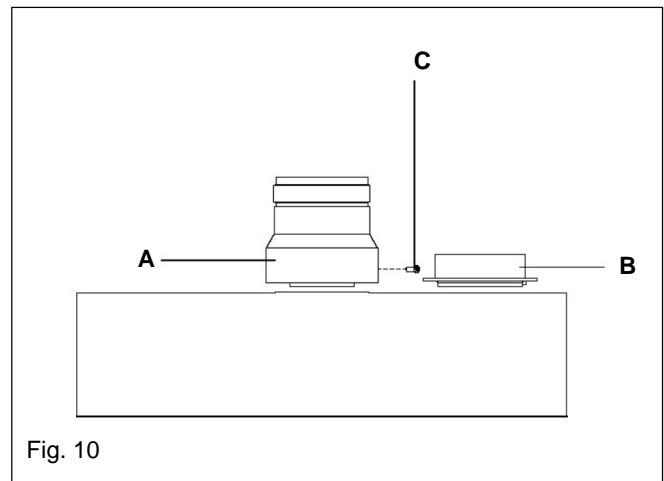

Fig. 10
4.5.3.1 INSTALLATION OF TWIN ADAPTOR KIT (see fig. 10 & 11)
- Insert the exhaust connection manifold (A) onto the appliance flue outlet.
- Remove the blanking plate (located to the right of the appliance flue outlet) and – using the same screws – install the air inlet plate (B).
- Using the hole in the exhaust connection manifold as a guide, drill a 3mm hole in the appliance flue spigot and secure the exhaust manifold connection to the flue spigot using the screw provided (C).